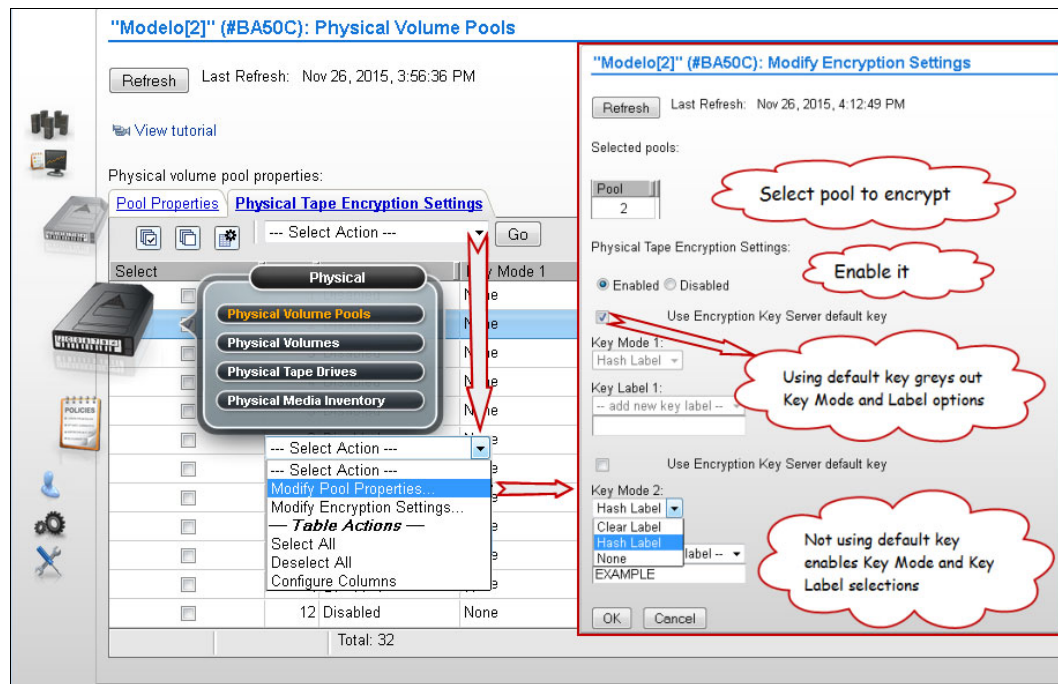

Figure 11-21 Modify encryption settings parameters
To modify encryption settings for one or more physical volume pools, complete the following steps (Figure 11-21 on page 581 shows this sequence). For more information, see 10.1.1, “Physical Volume Pools” on page 450:
5. Click **Go** to open the Modify Encryption Settings window (see Figure 11-21).